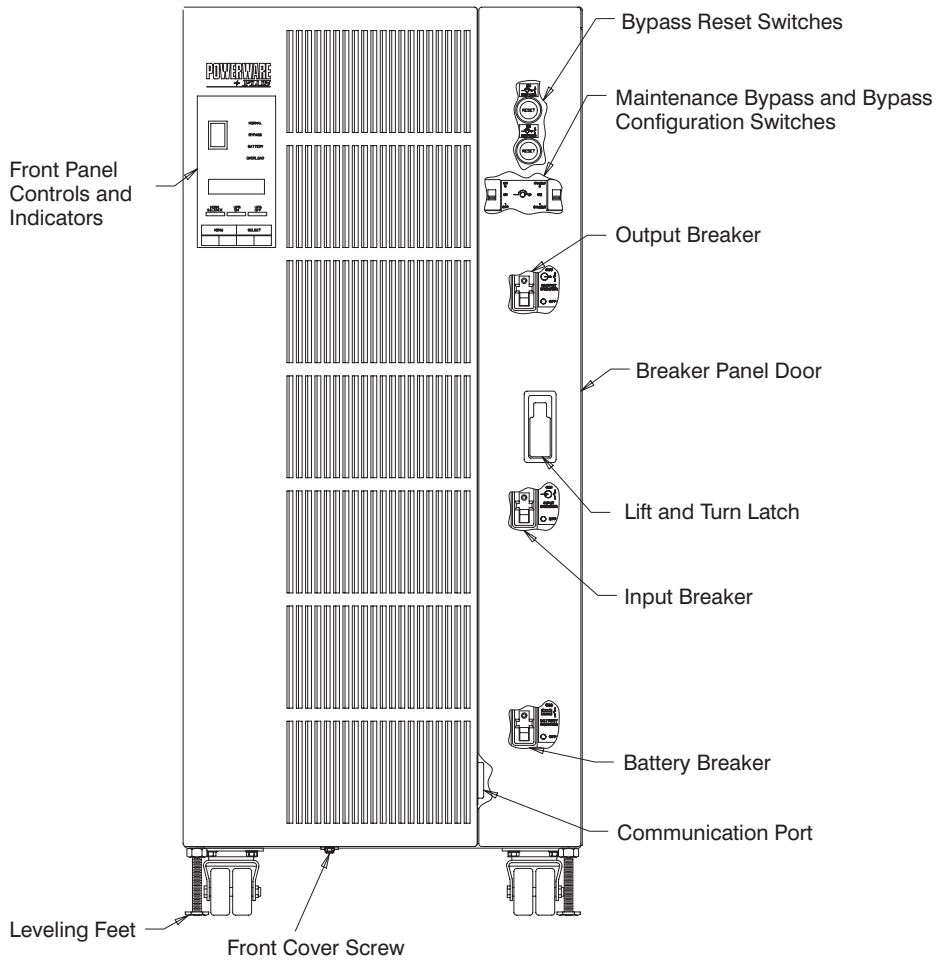

Figure 13. Power Processor Cabinet (Front View)
2. Locate the Bypass Configuration switch and Maintenance Bypass switch located behind the breaker panel door on the power processor cabinet (see Figure 13 on page 46).
1. Remove the screw located at the bottom of the power processor cabinet front cover (see Figure 13). Retain the screw.